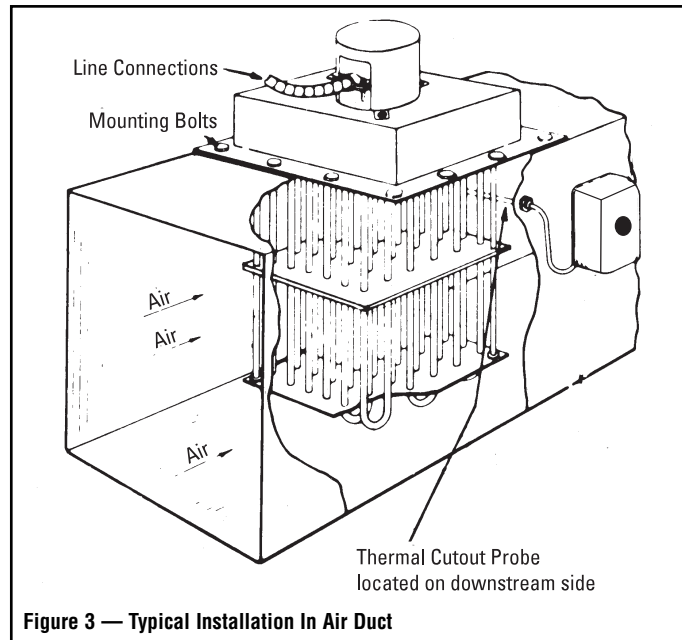

Figure 3 — Typical Installation In Air Duct
- A Chromalox overtemperature controller is recommended for overheat protection and control of heater and process (See Figure 3). Consult factory or local Chromalox representative.